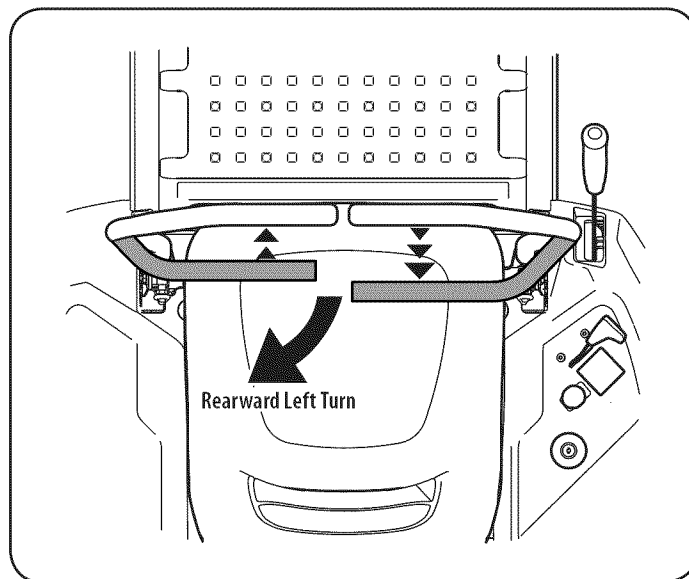

Figure 17
2. To turn to the left while traveling in reverse, move the left drive control lever forward of the right lever. See Figure 17.